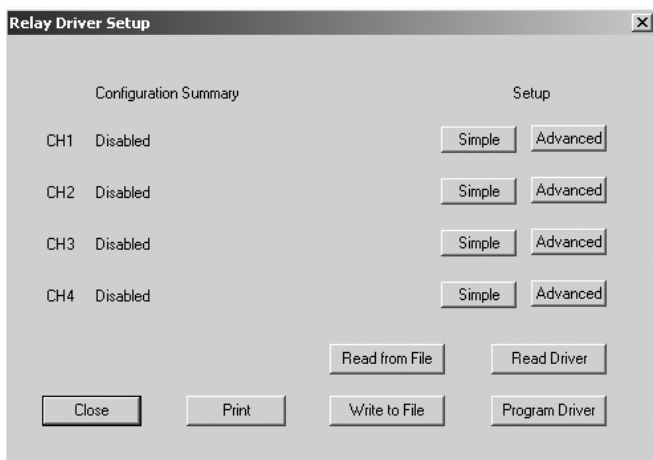

Figure 2. Relay Driver Setup Screen
The Relay Driver Setup screen should appear (see Fig. 2). The setup wizard is now open. Proceed to section 3.2.
1. From the Relay Driver setup screen (as shown in Figure 2), choose the **Simple** setup button next to the desired channel
1. Starting from the Relay Driver setup screen (as shown in Figure 2), choose the **Simple** setup button next to the desired channel.